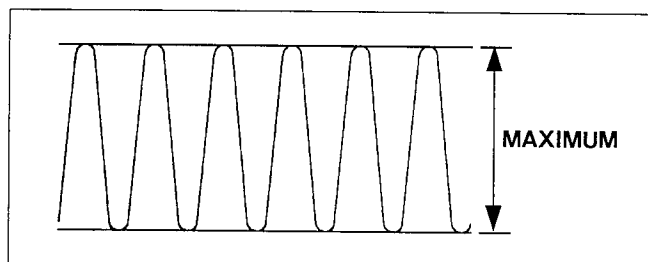

Figure M28-G
3. Adjust the Nut (A)(Figure M28-A) so that the CH2 output level becomes maximum as shown in Figure M28-G.